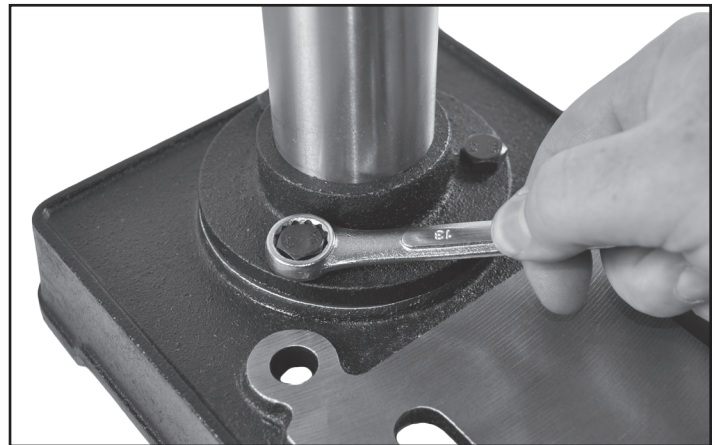

FIG. 1
1. Install the column onto the base using the three column mounting bolts. FIG. 1.